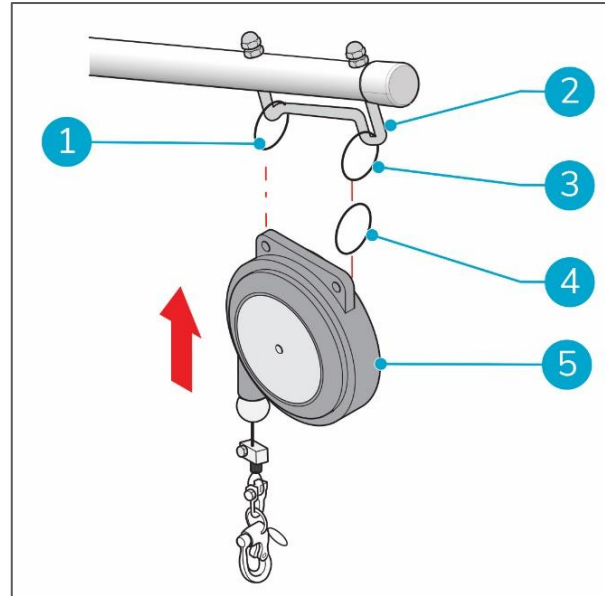

Figure 6
4. Attach two connection rings (Figure 6, pos. 1, 3) to the bracket (Figure 6, pos. 2).
5. Attach the third connection ring (Figure 6, pos. 4) to the connection ring on the right (Figure 6, pos. 3).
6. Attach the pulley (Figure 6, pos. 5) to the rings (Figure 6, pos. 1, 4).